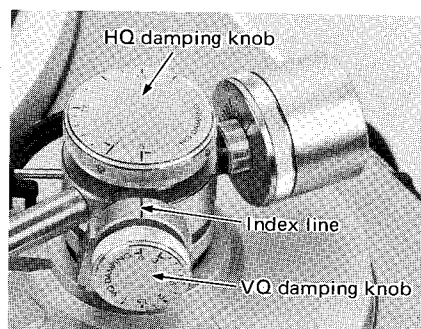

Fig. 14
3. Turn the VQ damping knob until the "0" mark is aligned with the index line. (See Fig. 14)